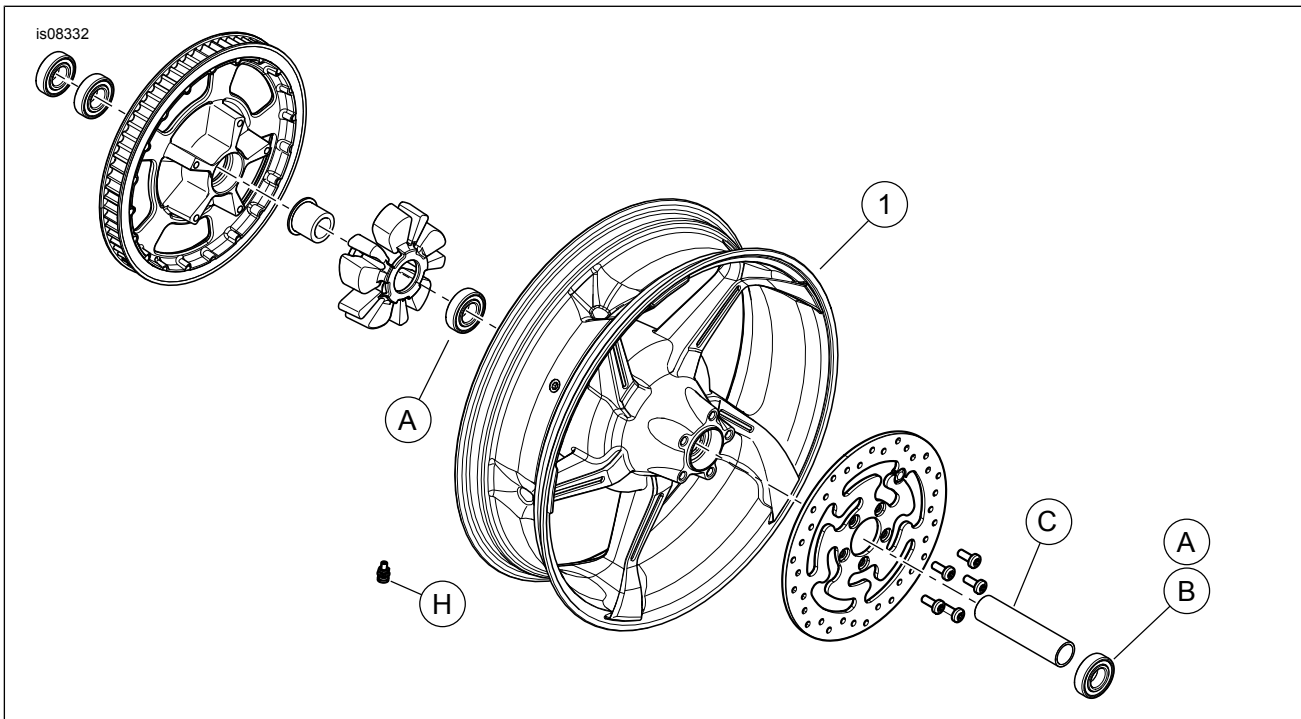

Figure 1. Service Parts: Aggressor Rear Wheels
See Figure 1 and Service Parts Tables.
2. See Figure 1. Install valve stem assembly (H) on wheel. Refer to the service manual.